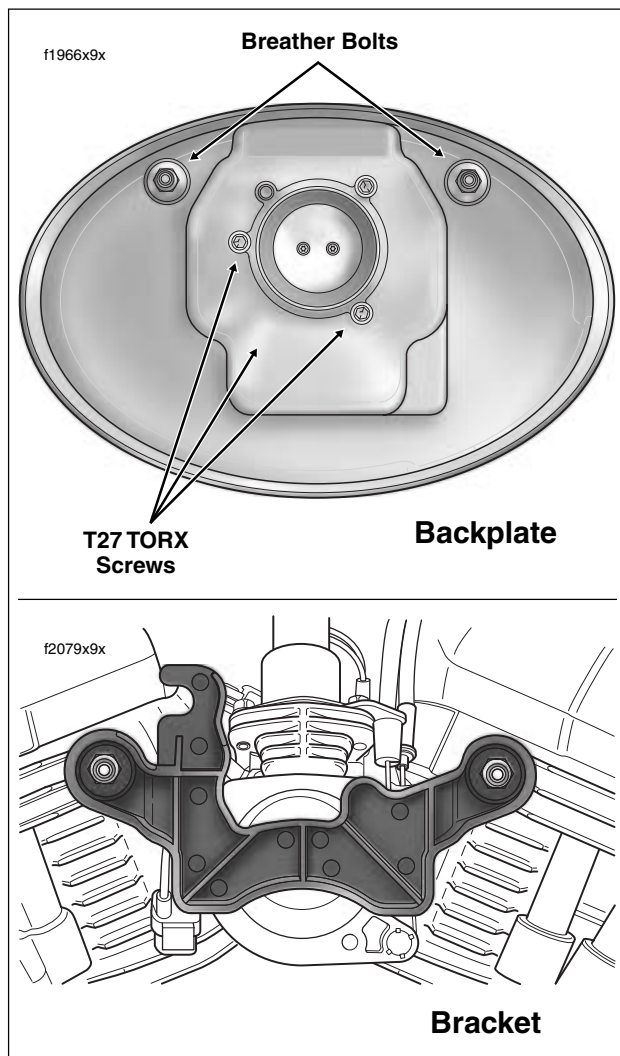

Figure 9-26. Install Backplate or Bracket
- a. **Backplate:** Install two breather bolts to fasten backplate to front and rear cylinder heads. Install three T27 TORX screws to secure backplate to face of induction module. See upper frame of Figure 9-26.
- b. **Alignment bracket:** Fitting pins on inboard side into holes in face of induction module, install two breather bolts to fasten bracket to front and rear cylinder heads. See lower frame of Figure 9-26.